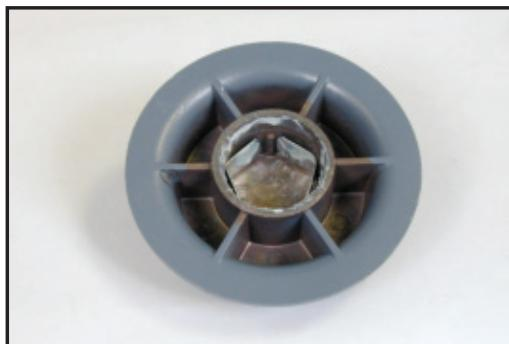

Figure 30 - 5-Sided Flat Spring in Dial
8. Ensure that the 5-sided flat spring is fully recessed in the dial with the spring gap aligned with the internal key of the dial. (See Figure 30.)